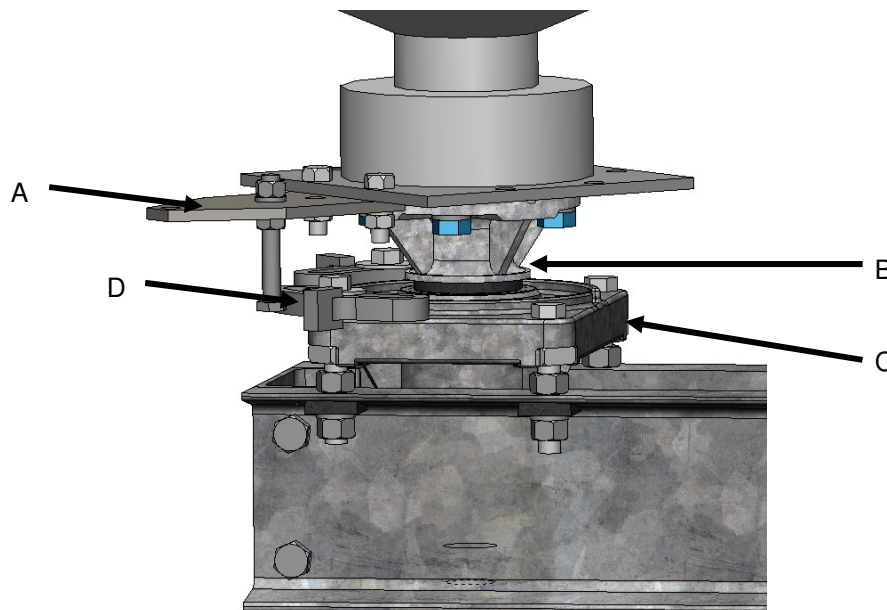
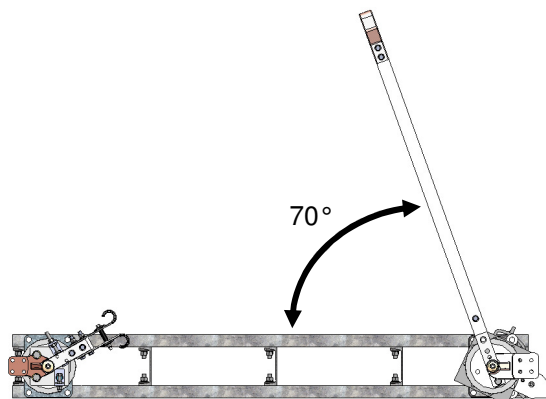

Figure 2: Match-Marked Components
Figure 7: Minimum Open Angle
- 1.3. Before disassembling the live parts from the switch base you must match mark the insulator bearing hub, switch arm, and rotating base to ensure correct reassembly (**See Figure 2**). Match-mark A to B and B to C. Failure to complete this step will make final adjustment more difficult.
- 3.6. The minimum blade opening, 70°, is shown in **Figure 7**. The switch can be set to both right and left hand opening.
- 3.6.1. Conventional blade open position shown in **Figure 7**. Slight changes to the blade fully open angles are easily made in the field. Simply adjust the open position stop on the bearing, as seen in **Figure 2**.